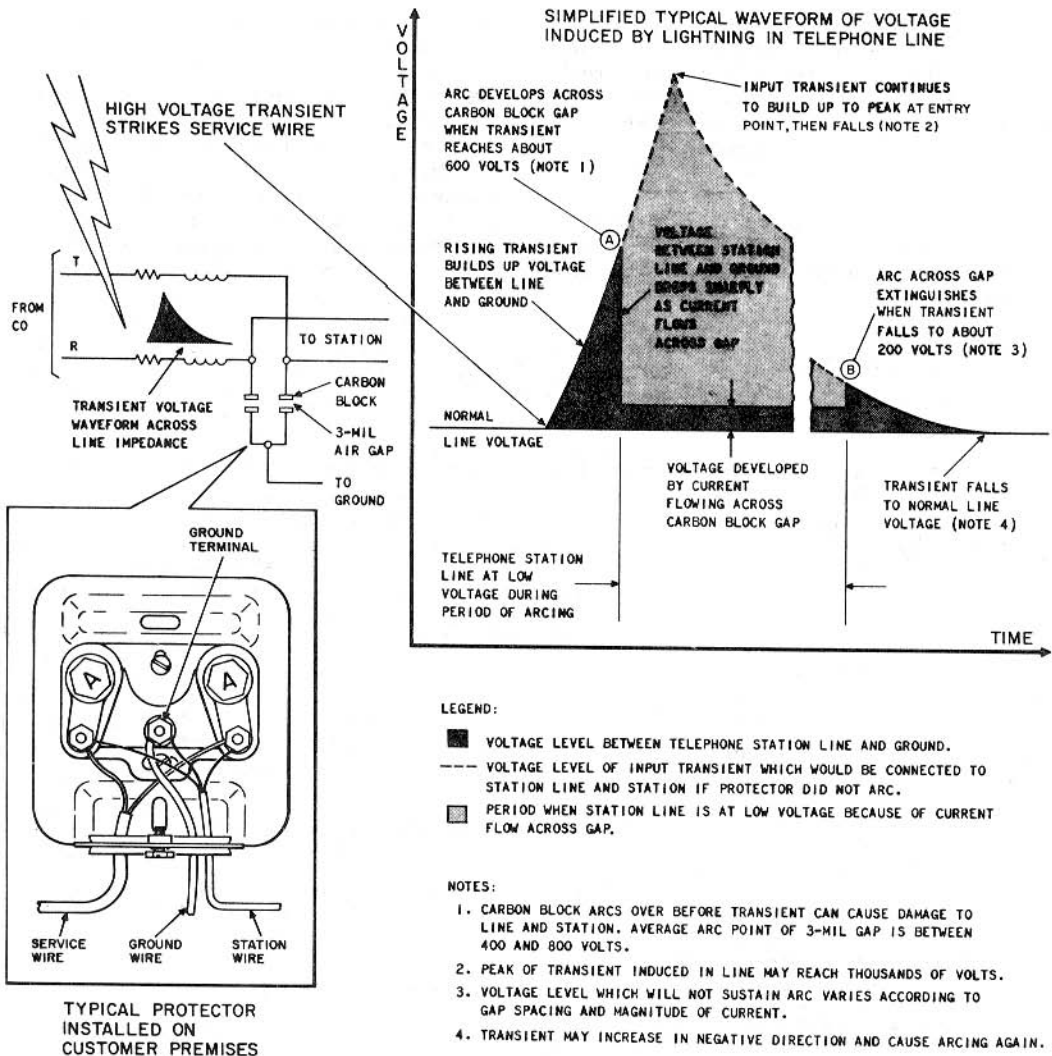

Fig. 2—Carbon Block Action on Telephone Line Hit by High-Voltage Transient
3.02 The effect of a protector with 3-mil carbon blocks on a typically high-voltage waveform is illustrated in Fig. 2. The blocks operate on either positive or negative voltage peaks that exceed the firing point of the gap (approximately 600 volts in this example).
3.03 The waveform in Fig. 2 can represent any high-voltage condition that can develop on telephone lines, for example, lightning surges, switching transients, power crosses, etc. In any case, the carbon blocks arc over as the voltage level reaches point A. The current flow associated with the foreign voltage will be shunted to ground via the arc path; the voltage on the station telephone line, with respect to the protector ground terminals, will be equal to the voltage drop across the carbon blocks (usually less than 50 volts). These conditions will be maintained, as illustrated by dark shading, until the voltage is reduced to the level indicated by point B. In other words, the arc is sustained